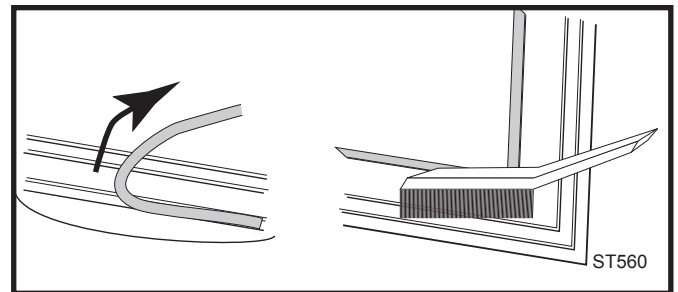

Fig. 30 Remove gasket then clean channel with wire brush.
2. Use a wire brush or a screwdriver to clean the channel of any remaining cement or bits of gasket. Remove stubborn deposits of cement with a cold chisel if necessary. (Fig. 30)